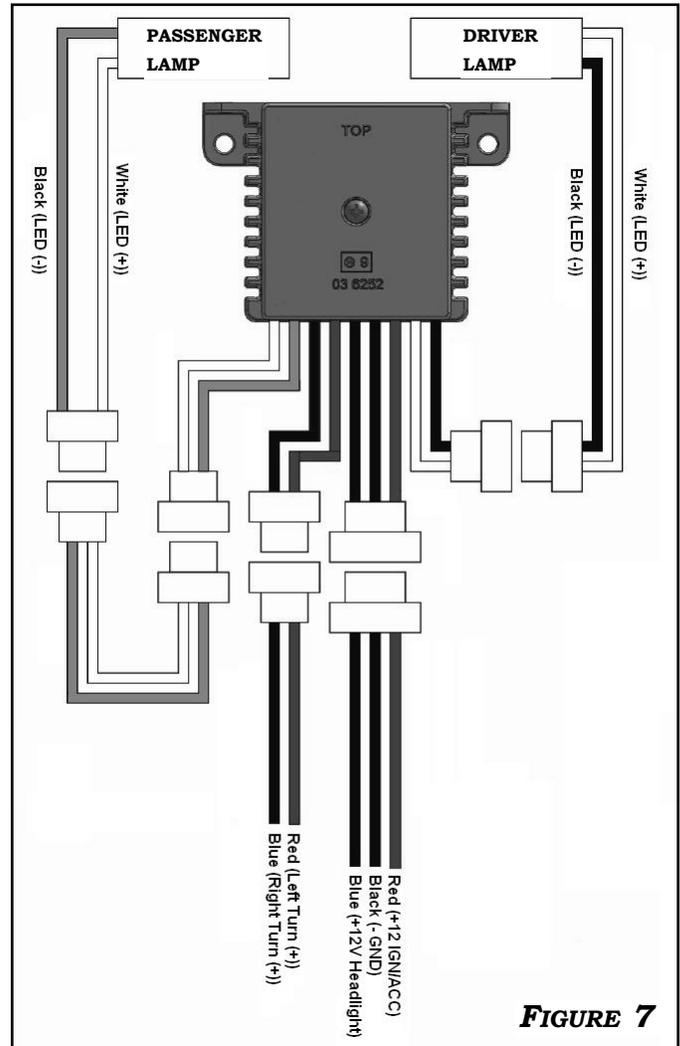

FIGURE 7
STEP 2: ELECTRICAL INSTALLATION (SEE FIGURE 7)
STEP 2: ELECTRICAL INSTALLATION (CONTINUED) (SEE FIGURE 7)